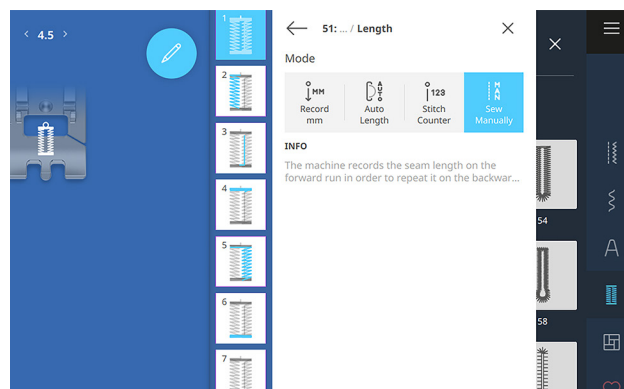

Fig. 34
13. Each segment of the buttonhole is displayed in the Buttonhole bar (Fig. 34). To move through each segment, touch the Quick Reverse button on the front of the machine.